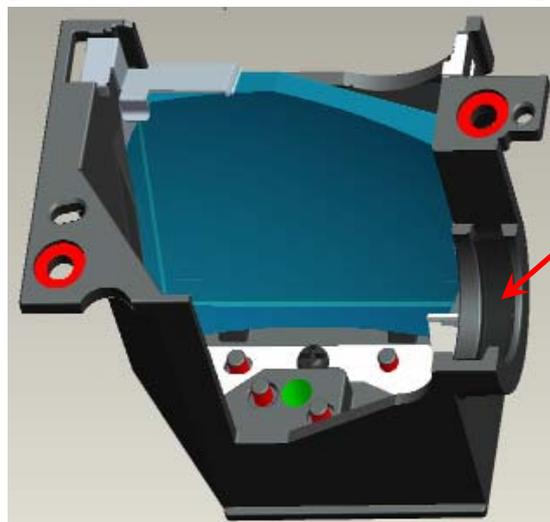

Fig. 6-6
- V. Paste “Sponge tube AL” on cannellure of” HSG ILL” (Fig. 6-6).